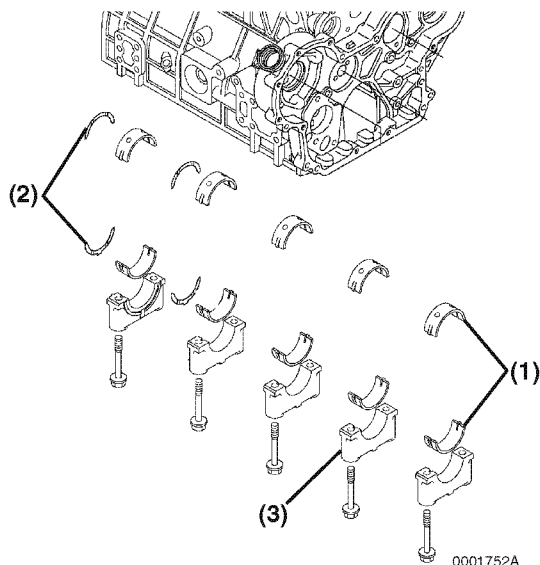

Figure 6-138
2. Reinstall new bearing inserts (**Figure 6-138, (1)**) and thrust bearing (**Figure 6-138, (2)**) in the cylinder block and main bearing caps. Apply a liberal coat of clean engine oil to the bearings and crankshaft journals.
4. Reinstall the main bearing caps (**Figure 6-138, (3)**).